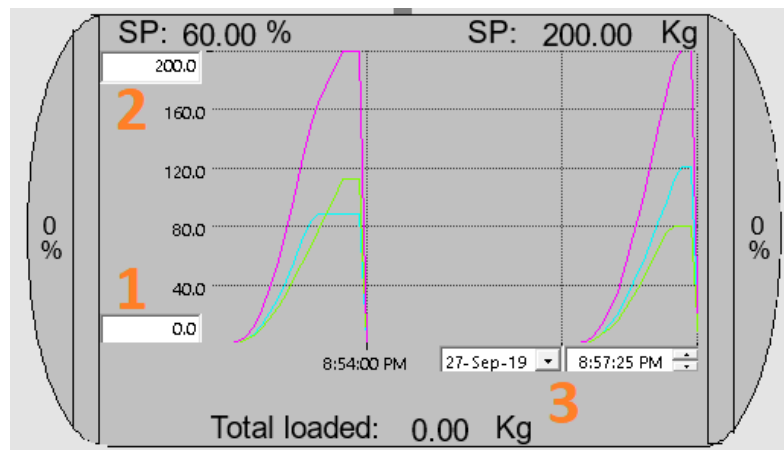

Figure 5 Unload control graph (Source: Experion HS)
- While unloading, you can consult the graph of the quantity of product unloaded in the right lower part of the display. You can configure the lower and upper limit of the graph by editing its value (Indicator 1 and 2 in **Figure 5** respectively), to move through the time base you must configure the time and date of the graph's Y axis (Indicator 3 in **Figure 5**).